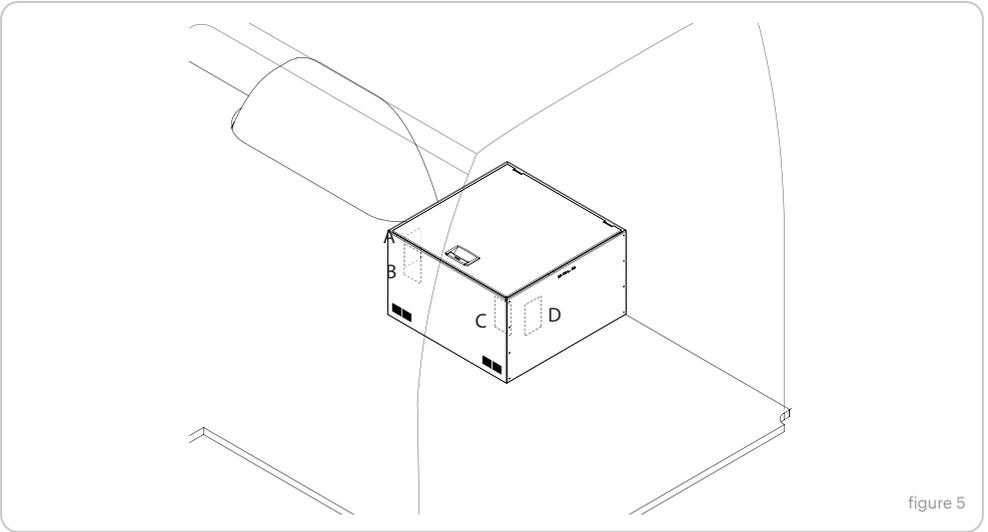

figure 5
3. To add a swivel table to the bench we recommend to use 1 of the 4 indicated locations fig 5. The corners are the strongest constructional location and this minimizes any potential wobbles when using a swivel table.